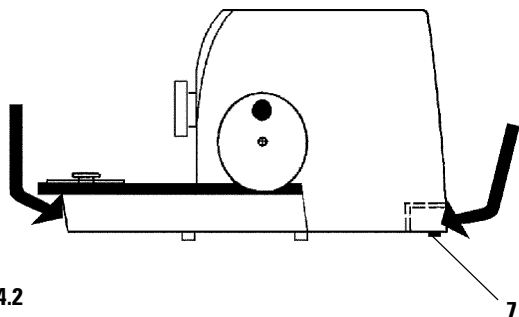

Fig. 14.2
- Open the outer cardboard box (1).
- Take out the accessory box (2) and the instruction manual.
- Remove the outer cardboard box (1) by lifting it upwards.
- Fold down the lateral parts of the inner cardboard box (6).
- Take out the fixing module (3).
- Lift the instrument (4) from the foam part (5) holding it at the front of the base plate and at the recessed grip at the rear (Fig. 14.2).
- Remove two screws (8) at the top and bottom of each of the four sides of the crate and take off the lid (1).
- Take out the foam bridge (2).
- Remove the box side walls (3) by lifting them up.
- Take out the accessory box (6).
- Lift the instrument (4) from the foam part (5) by holding it at the front of the base plate and at the recessed grip at the rear (Fig. 14.2).
Two slide faces (7, Fig. 14.2) located at the rear of the base plate facilitate to reposition the instrument on the table.